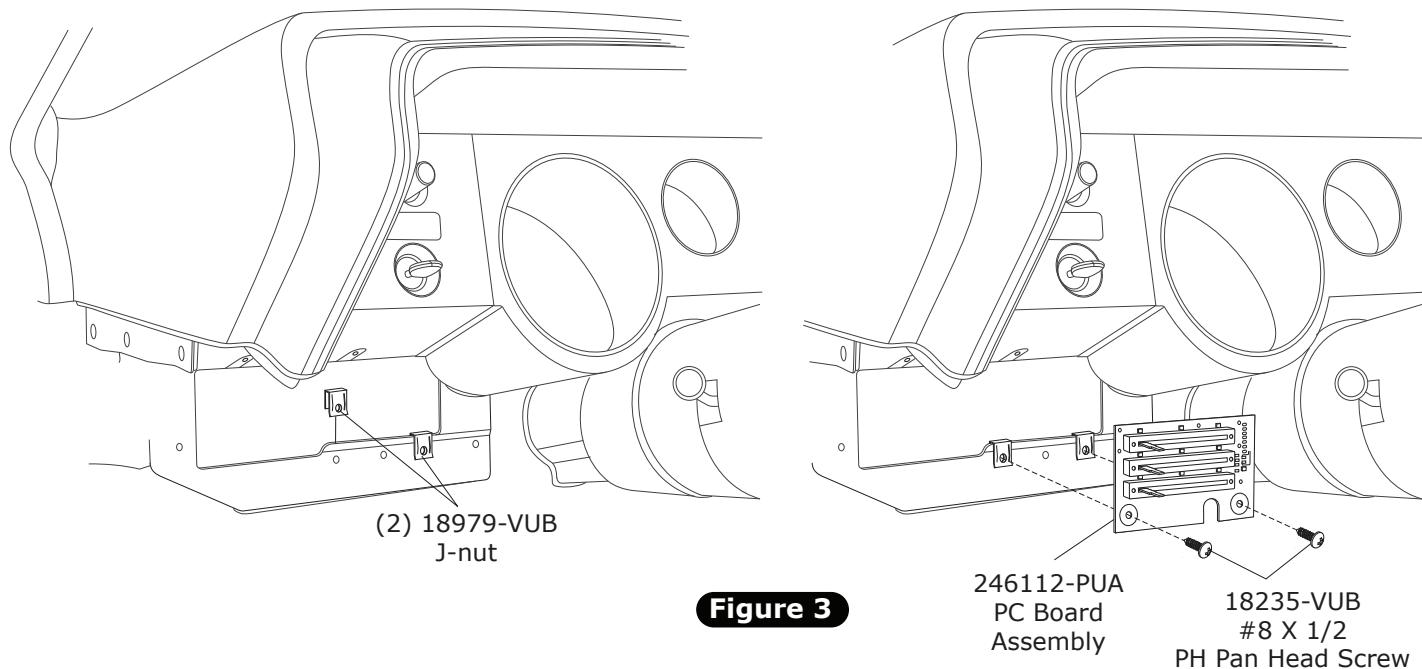

Figure 3
1. Install (2) J-nuts on dash (See Figure 3, below).
2. Using (2) #8 X 1/2" PH pan head screws, install PC board assembly as shown in Figure 3, below.